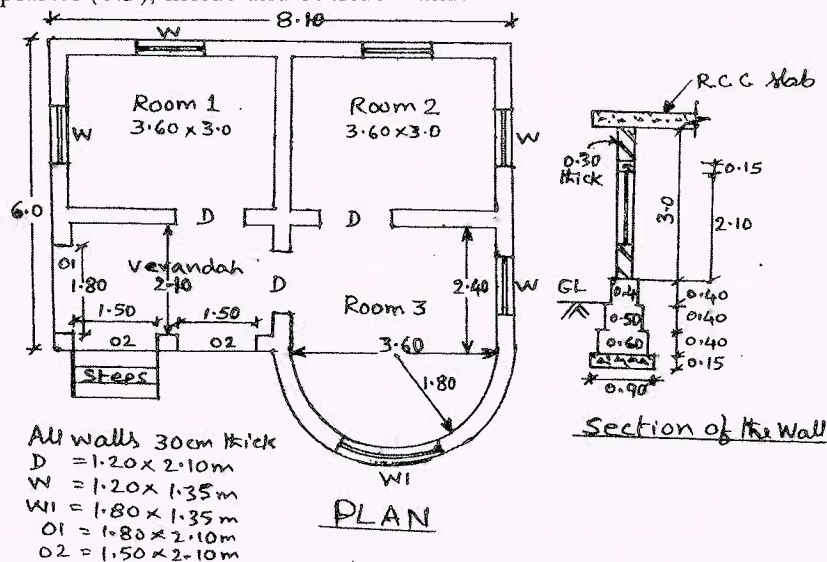

Fig.Q1
- 1 Prepare a detailed estimate for a residential building shown in Fig.Q1, for the following items of work: